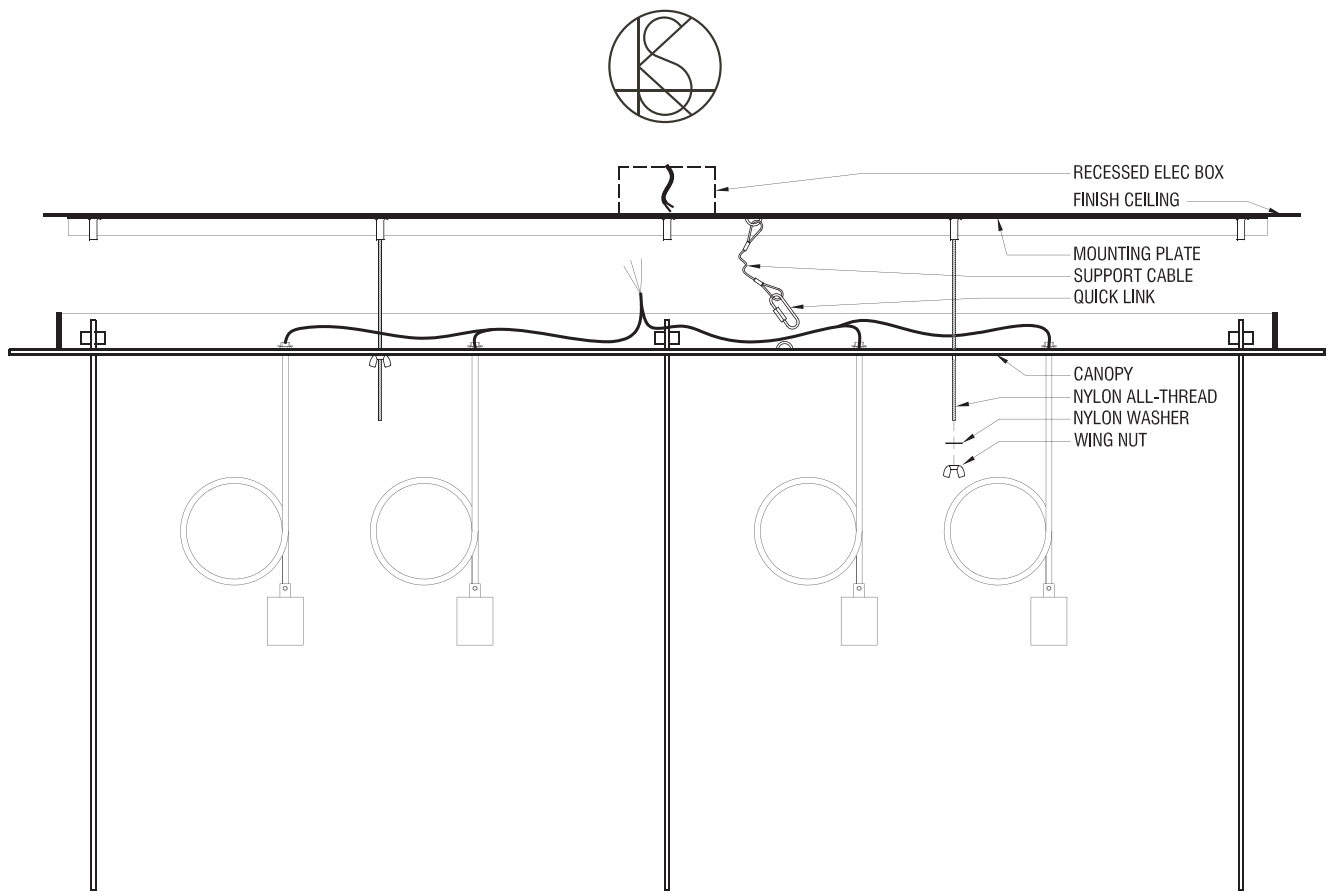

Figure 4. Install nylon all-thread rods into mounting plate and slide canopy up over rods
- 7 Fully thread each of the provided nylon all-thread rods into the threaded stand-offs on the mounting plate (Figure 4).
- 8 Slide canopy up and over the nylon all-thread rods such that each rod passes through the appropriate hole in the canopy that corresponds with the threaded stand-off on the mounting plate (Figure 4). One at a time, slide a nylon washer up over each all-thread and thread on a wing nut. When all four wing nuts are securely in place on the all-thread rods, the canopy can then carefully rest on the washers. Make sure that the wing nuts are arranged to allow the canopy to be level.
- 10 With the wired canopy supported on the all-thread rods, attach the support cable to the loop on the inside/top of canopy by means of the provided quick-link at the free end of the cable (Figure 4).